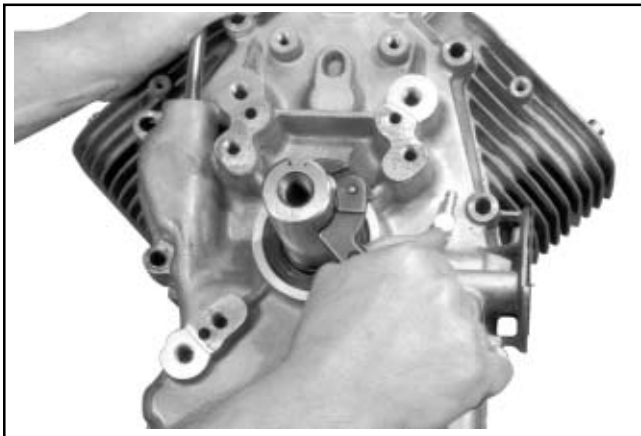

Figure 11-20. Using Spanner Wrench to Turn Crankshaft.
- Install the closure plate to the crankcase. Carefully seat the camshaft and the crankshaft into their mating bearings. Rotate the crankshaft slightly to help engage the oil pump and governor gear meshes. See Figure 11-20.